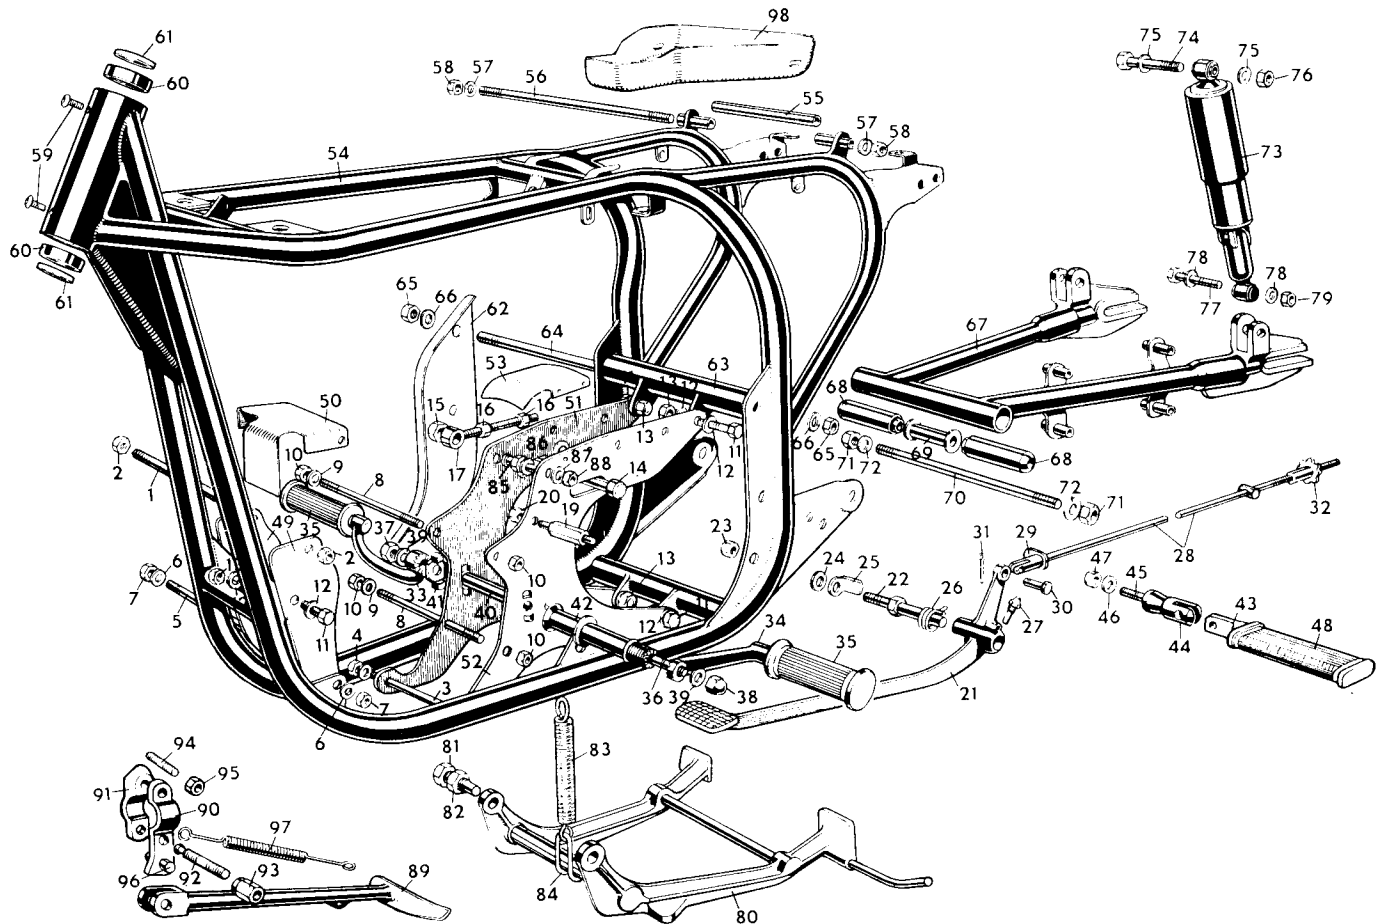

FIG. 55
A strip down of the frame is shown in fig. 55, which indicates the parts used, also the assembly order. The figures shown for the various parts are for spares list reference. The arrangement used can be seen in the strip down, the two Clayflex bearings (68) are a press fit in the swinging arm (67) separated by the distance piece (69). An arbour press is used to take out and fit these special bearings—which need no routine attention.